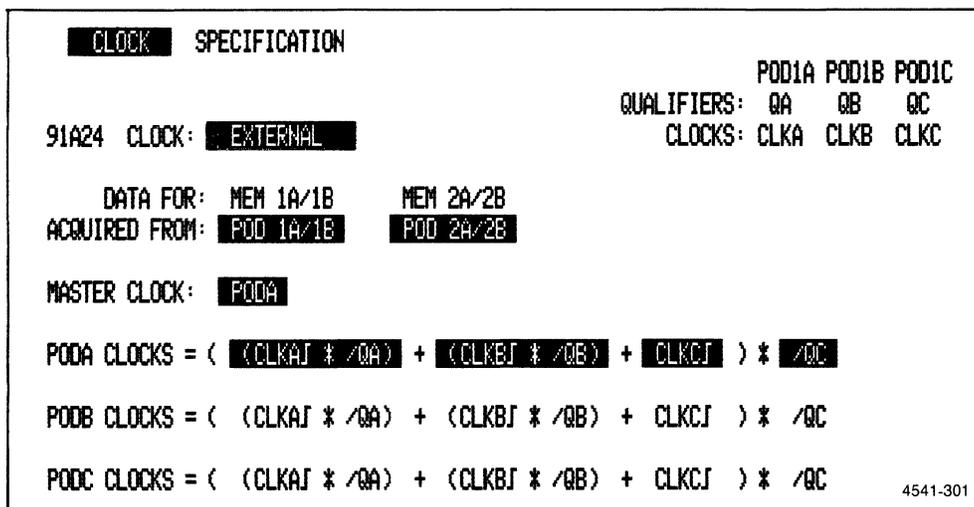

Figure 5-19. Clock Specification sub-menu setup for Functional Test 12.
2. Change the 91A24 clock status to match Figure 5-19.